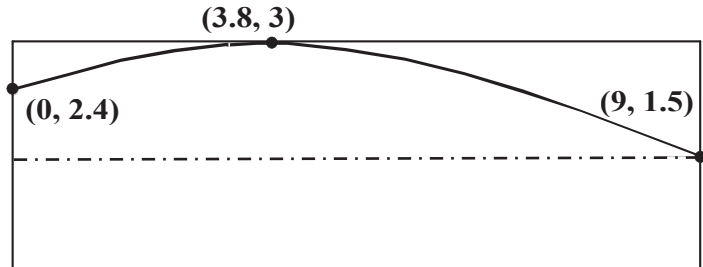

Fig. 4
Step 3. Click the 3 points in **Fig. 4**. Start with **(0, 2.4)** then **(3.8, 3)** finish with **(9, 1.5)**. Use the AutoCursor ribbon bar to view the coordinates. Or key-in the coordinates and press ENTER for Z.